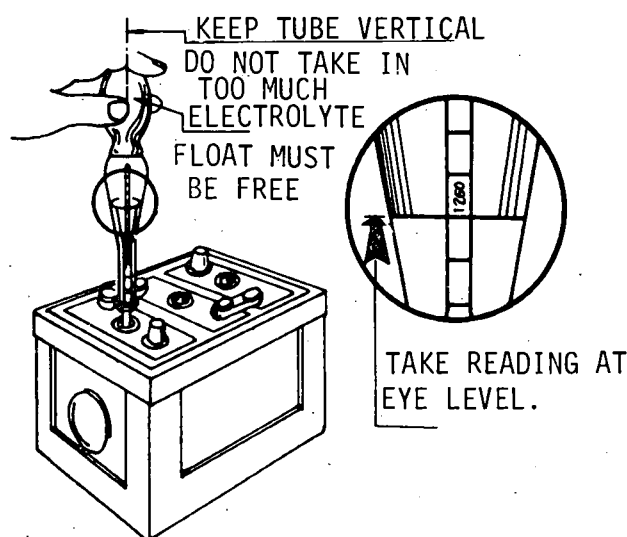

Fig. 1
- b) Insert the sounder of the hydrometer in each cell sucking up the electrolyte until the float is free and record the density reading (fig. 1).